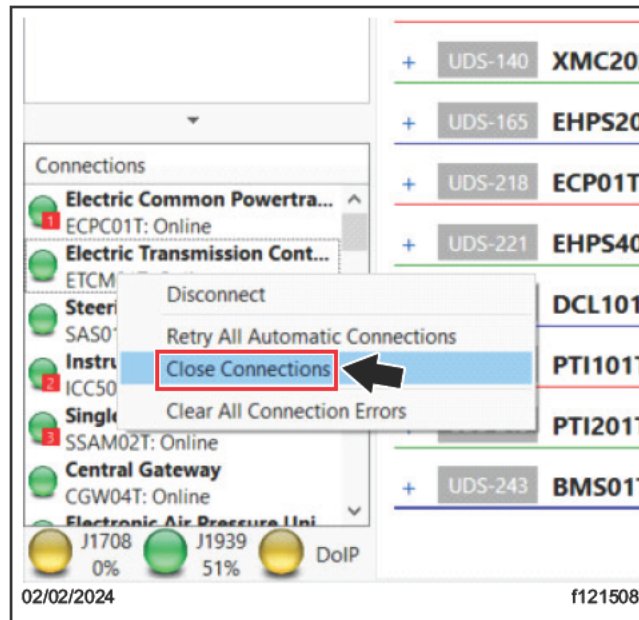

Fig. 38, Closing Connection to all the ECUs
- 19.1 Right-click on the 'Connections' panel, located in the bottom-left corner of the screen, then select 'Close Connections.' See Fig. 38.